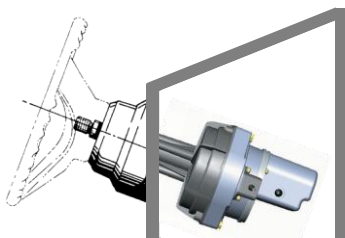

Fig B7 - 20° mounting
- **20° Bezel Kit OC15SUK09:** This kit should be used if the steering wheel is mounted 20° to the dashboard (Fig B7).